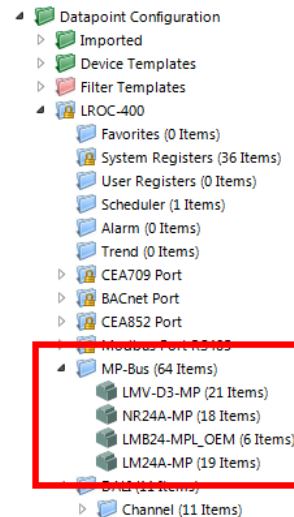

Figure 183: Data Point Manager with MP-Bus device folders.
- The folder list (Figure 183),